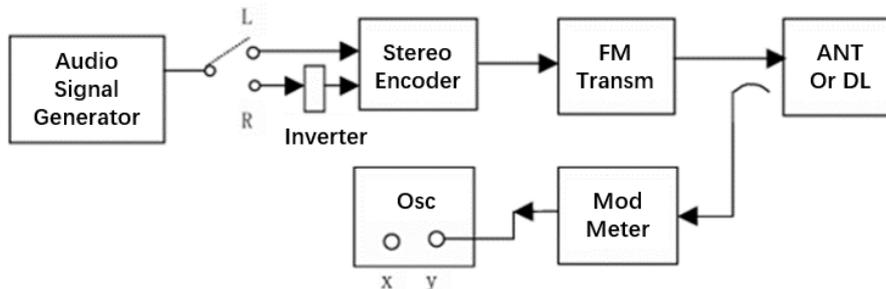

Fig 7 Block diagram for measuring the modulation of the main carrier by the residual 38 kHz component of the stereo broadcast modulated s signal
5.2.6.1 The measurement block diagram is shown in Fig 7.